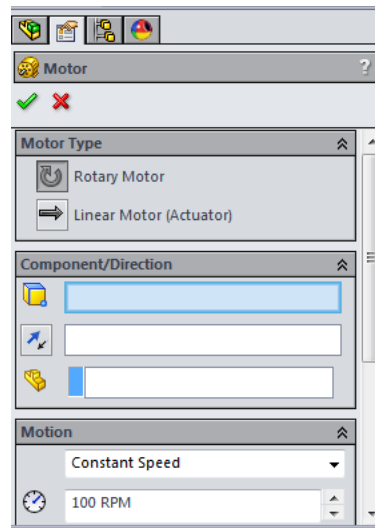

Figure 20-21 The Motor PropertyManager
1. Choose the **Motor** button from the **MotionManager** toolbar; the **Motor PropertyManager** will be displayed, as shown in Figure 20-21.